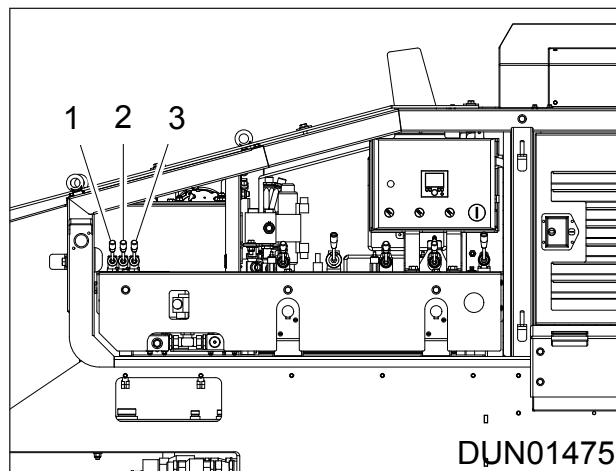
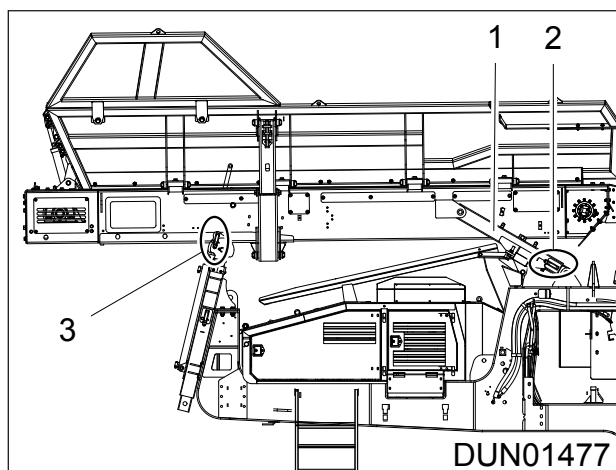

Figure 6.23 - Control Levers
Figure 6.24 - Second Pinning Location - Front Strut
3. Operate lever 3 (Ref. Figure 6.23) to raise the front strut (Item 1; Ref. Figure 6.24) to the second pinning location and re-insert the pin (Item 2; Ref. Figure 6.24)
4. Remove pin (Item 3; Ref. Figure 6.24).
5. Operate lever 3 (Ref. Figure 6.23) to raise the hopper to its angled working position.